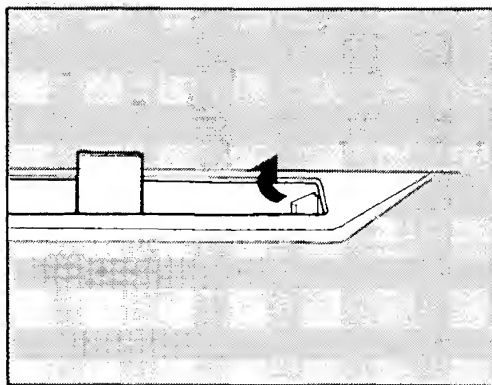

Fig. 7
2. To manually override push the lever in the direction of the arrow, to the end of its travel (Fig. 7).